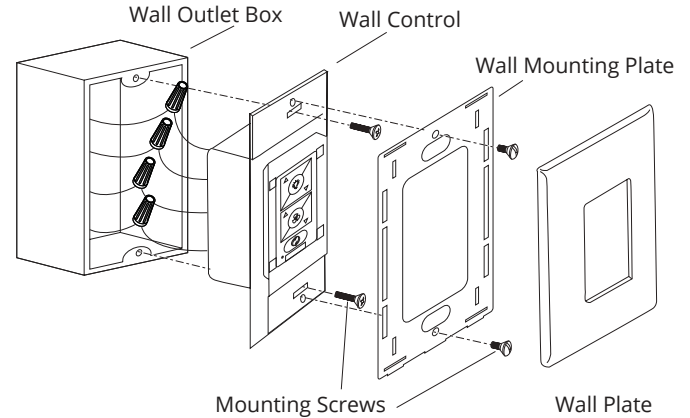

FIG. 19
1. Carefully tuck the wire connections inside the junction box. Secure the wall control with the two wall control mounting screws provided (**FIG. 19**).